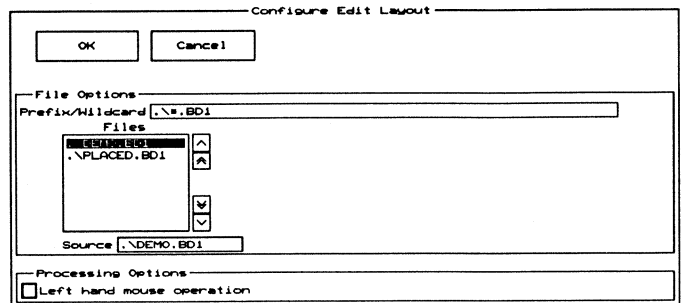

Figure 4-4. The *Configure Edit Layout* screen.
2. Select **Local Configuration**, then select **Configure PCB386**. The **Configure Edit Layout** screen displays (figure 4-4).